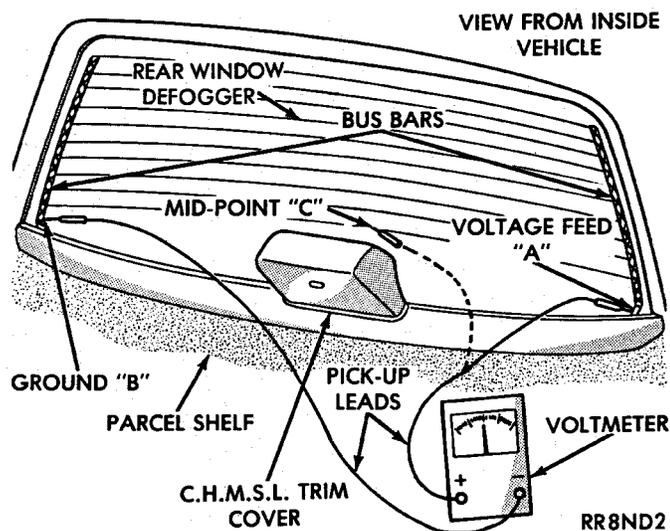
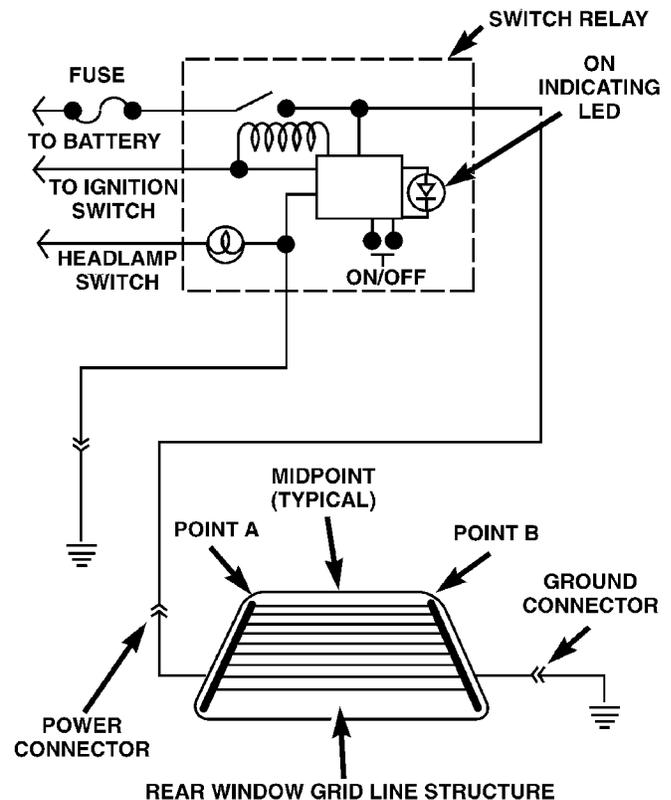
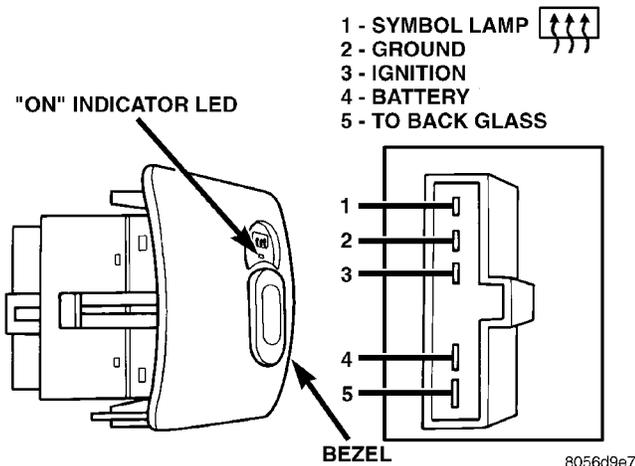
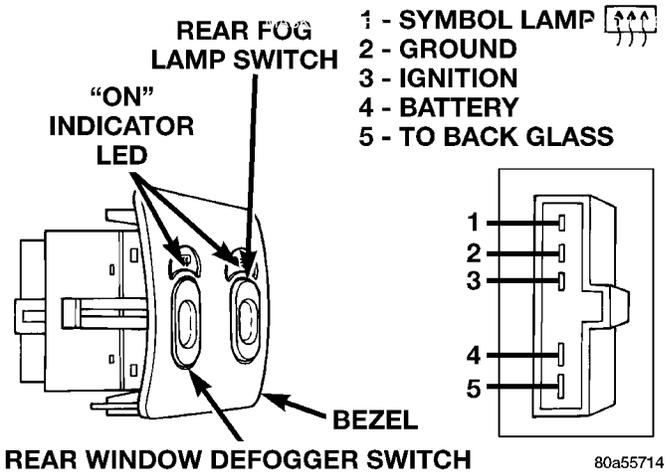

Fig. 2 Rear Glass Grid Line Test
Fig. 3 Systems Electrical Circuit
Fig. 4 Rear Window Defogger Switch
Fig. 5 Rear Window Defogger Switch - Export SERVICE PROCEDURES
- (1) Turn ignition switch to the ON position.
- (2) Connect an ammeter in series with the battery. Push the defogger control switch to the ON position. A distinct increase in amperage draw should be noted.
- (3) The rear window defogger operation can be checked by feeling the glass. A distinct difference in temperature between the grid lines and adjacent clear glass can be detected in three to four minutes of operation.
- (4) Using a DC voltmeter, connect negative lead to Point B, and the positive lead to Point A (Fig. 2). The voltmeter should read 10-14 volts.
The horizontal grid lines and vertical bus bar lines printed and fired on inside surface of rear window glass (Fig. 2) comprise an electrical parallel circuit. The electrically conductive lines are composed of a silver-ceramic material which when fired on glass becomes bonded to the glass and is highly resistant to abrasion. It is possible, however, that a break may
(1) Turn ignition ON and turn control switch to ON. The indicator light should come on.
(2) Using a DC voltmeter with 0-15 volt range, contact terminal B with negative lead of voltmeter. With positive lead of voltmeter, contact terminal A (Fig. 2). The voltmeter should read 10-14 volts. A lower voltage reading indicates a poor connection in the feed or the ground circuit.
(3) With negative lead of voltmeter, contact a good body ground point. The voltage reading should not change.
(4) Connect negative lead of voltmeter to terminal B and touch each grid line at Mid-Point with Positive lead. A reading of:
Move the lead toward the break and voltage will change as soon as break is crossed. Refer to (Fig. 2) and (Fig. 3).
(1) Remove the switch from the instrument panel but leave the switch connected, refer to Group 8E, Instrument Panel and Systems for removal procedures.
(2) Turn the ignition switch ON.
(3) Using a voltmeter, check for battery voltage at Pin 3 and Pin 4 (Fig. 3), (Fig. 4) and (Fig. 5).